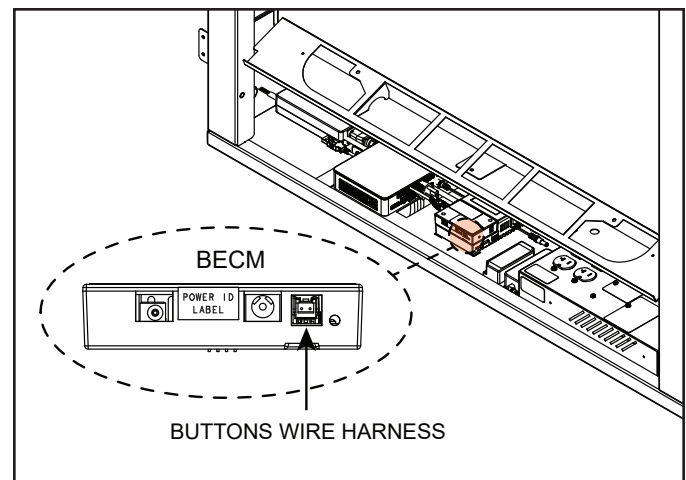

Figure 3.2 Disconnect Buttons Wire Harness from Appliance
2. If replacing the buttons wire harness, disconnect existing wire harness from the appliance BECM and reconnect the replacement harness. See Figure 3.2.